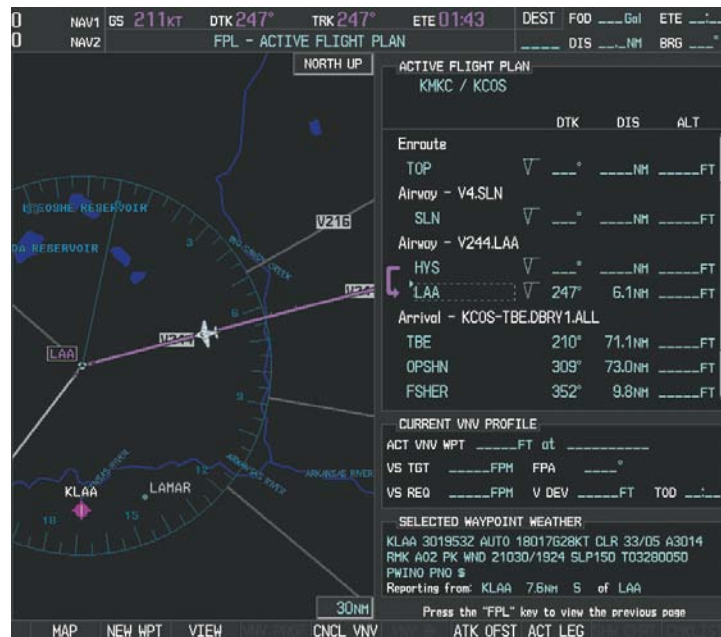

Figure 5-120 HYS to LAA Leg Active
10) At Lamar VOR (LAA) V263 is intercepted. See Figure 5-120.